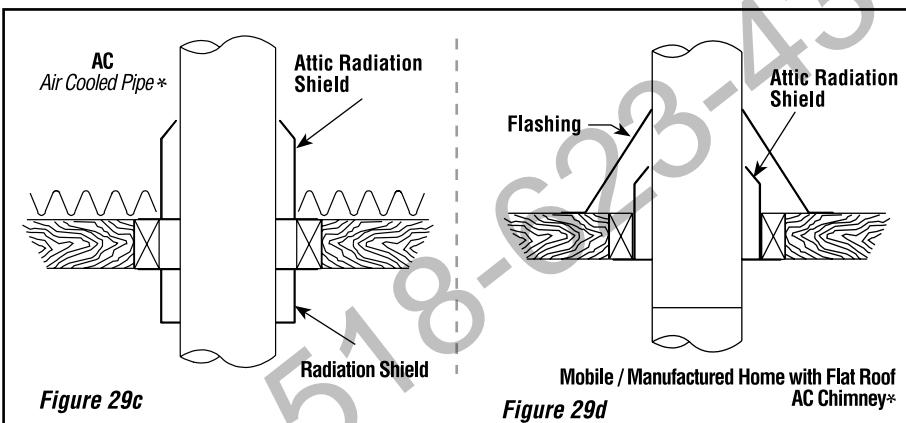

Figure 29c
5. From below, install a firestop (see **Figure 29c**).